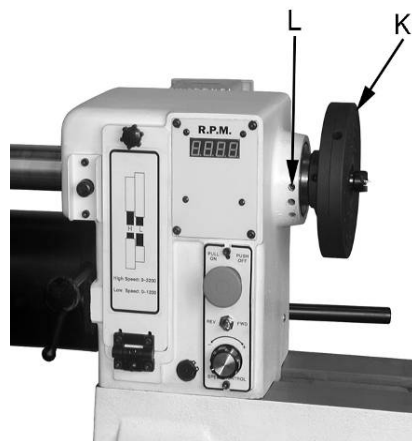

Fig 18
Thread indexing pin into the indexing hole (L, Fig 18). Make sure that it locates in the spindle hole.
The faceplate (K, Fig 18) is used for tuning bowls. There are a number of holes (L) for mounting the workpiece. Thread the faceplate onto the spindle in a clockwise direction, and tighten two setscrews.